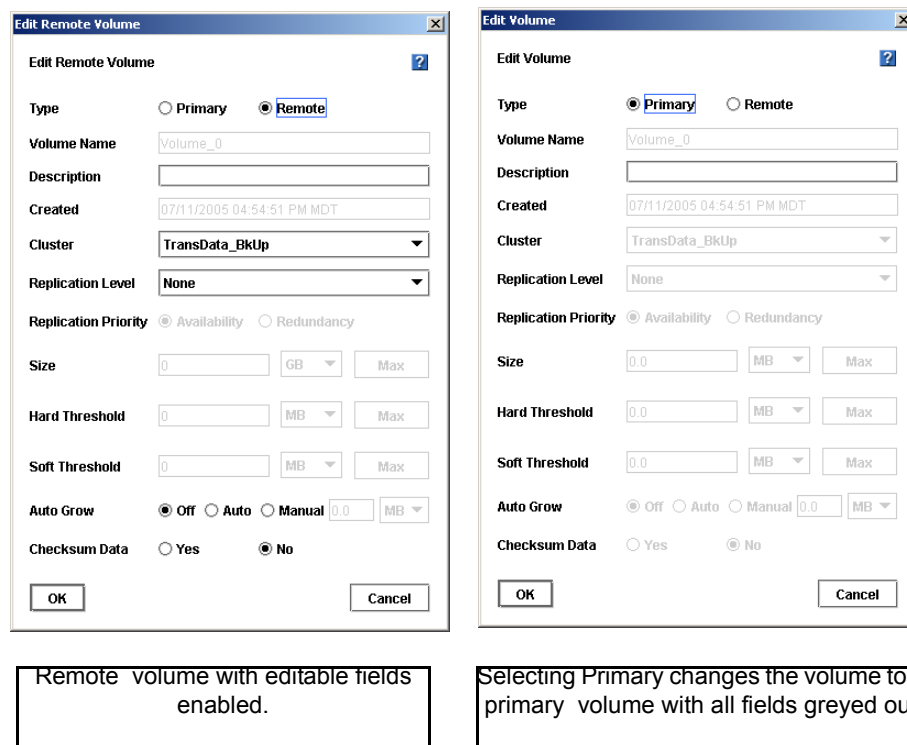

Figure 253. Making a Remote Volume into a Primary Volume
3. Change the Type from Remote to Primary. Notice that the window changes to the Edit Volume window and all the fields are greyed out, as shown in Figure 253.